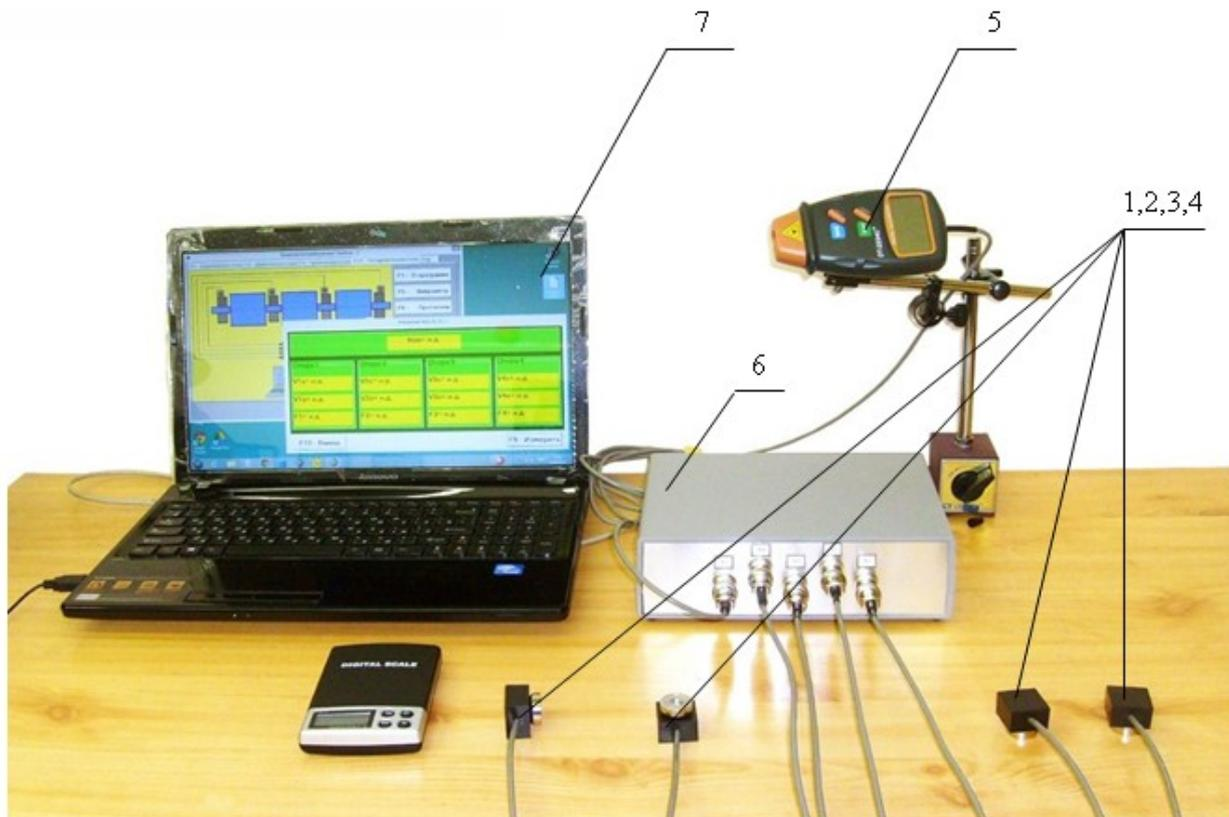

Fig. 4.1. Delivery set of the balancing set “Balanset-4”
4.1. Photos of the balancing set “Balanset-4” are shown in fig. 4.1 и 4.2.
Balancing set (fig. 4.1) consists of USB interface unit 6, four sensors of vibration 1, 2, 3, 4, phase sensor 5 and portable computer 7 .